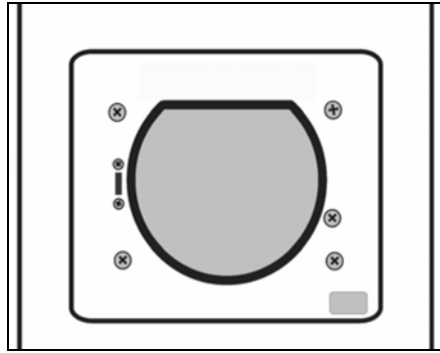

Figure 5-3: Screw Securing Power Electronic (T 1515, T 1520, T 1526, T 1565 C, T 1570 C)
1. Open the front door and remove the screw near the 4 o'clock position (see Figure 5-3).